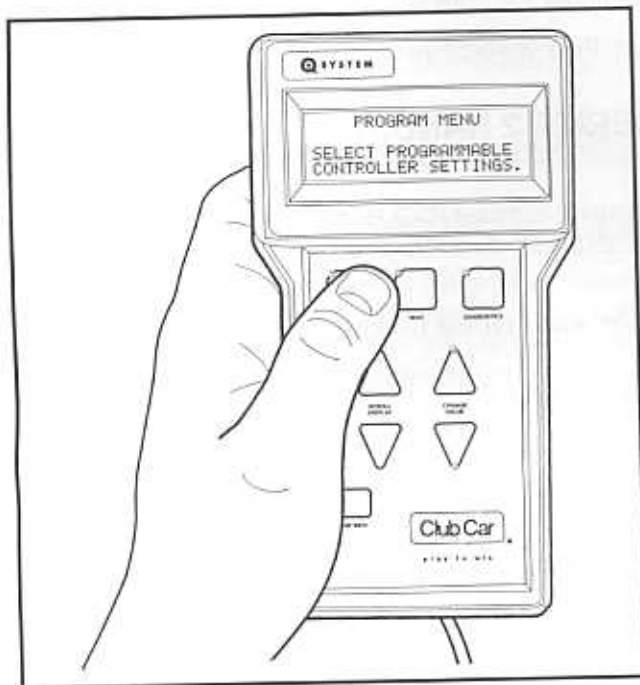

Figure 10 Program Menu Screen
- 4.1. Access the program menu by pressing the PROGRAM button (Figure 10).